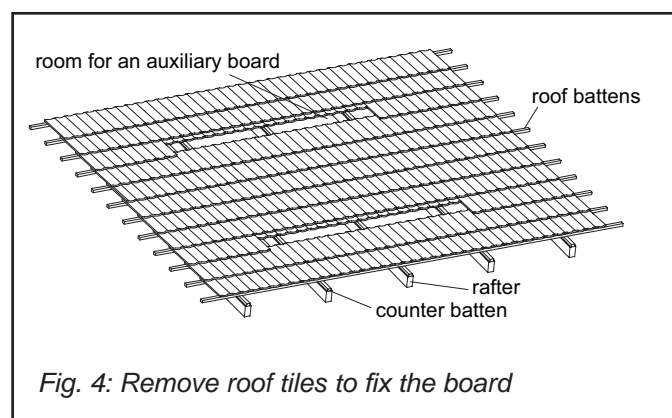

Fig. 4: Remove roof tiles to fix the board
- Remove roofing so that auxiliary boards can be inserted (approx. distance between boards 1600-1800 mm). For roof tiles, just shifting them upwards in the length of the auxiliary board is sufficient (see Fig. 4).